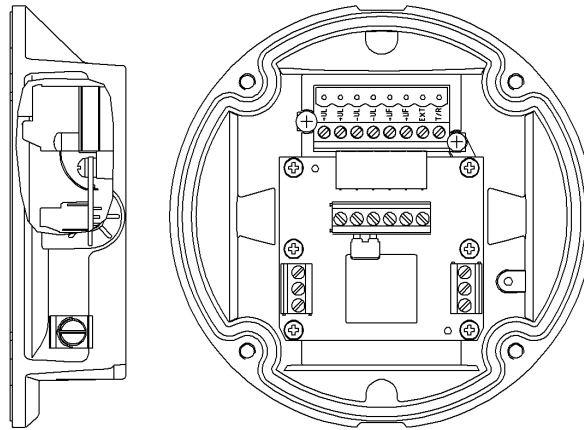

Fig. 1: KMX5000 RK mounted
3. ➔ Plug in the 6-pin flex-connection into the corresponding connection terminals of the detector base (see Fig. 1).
5. ➔ Using the supplied attachment screws and serrated lock washers, attach the KMX5000 RK to the detector base (see Fig. 1).